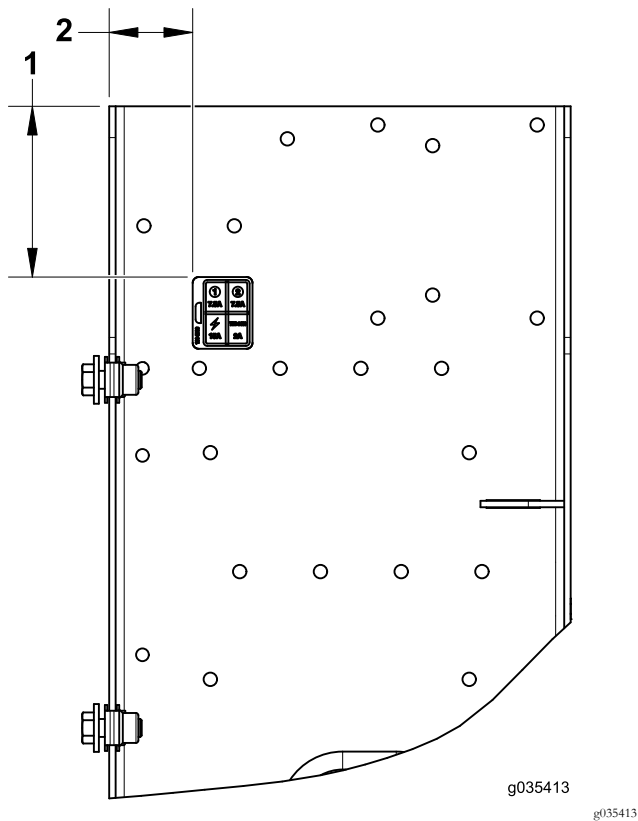

Figure 10
2. Locate and apply the fuse decal at the location shown (Figure 10).